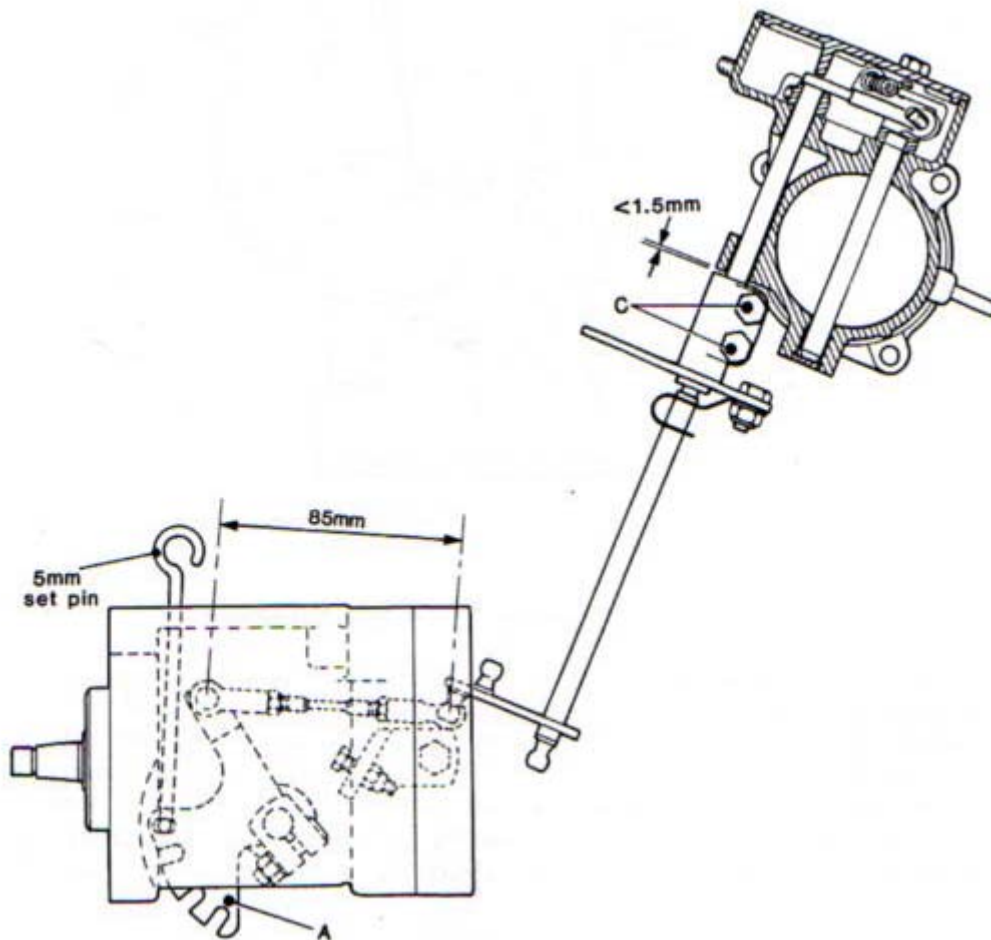

Fig. 5
- Loosen hexagonal-head bolts [C] on the clamp unit (Fig. 5.)
- Disconnect the linkage bar and check to ensure that  $L=85\text{mm}$  (3.346"), adjust if necessary, and reconnect (Fig. 5.)
- Holding the injector pump regulator lever in the relaxed position; put the 5 mm diameter set-pin through the elongated hole of the regulator lever [A] and insert into the bore in the pump casing (Fig. 5.)
Remove the cover on the altitude compensator and loosen the locknut of the barometer bellows. The CO content can now be set to give a smooth idle by turning the barometer bellows (Fig. 5.) to obtain a CO reading of 3 – 4 %.